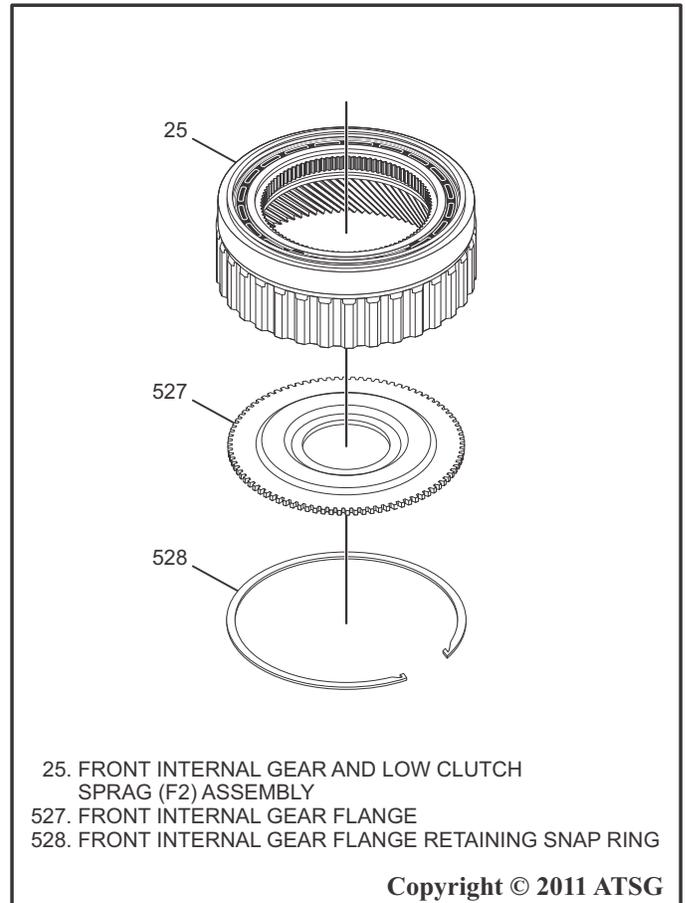

Figure 144
7. Install the Front Internal Gear Flange into the Front Internal Gear and Low Clutch Sprag (F2) Assembly as shown in Figure 144.
8. Install the Front Internal Gear Flange Retaining Snap Ring into the Front Internal Gear and Low Clutch Sprag (F2) Assembly as shown in Figure 144.